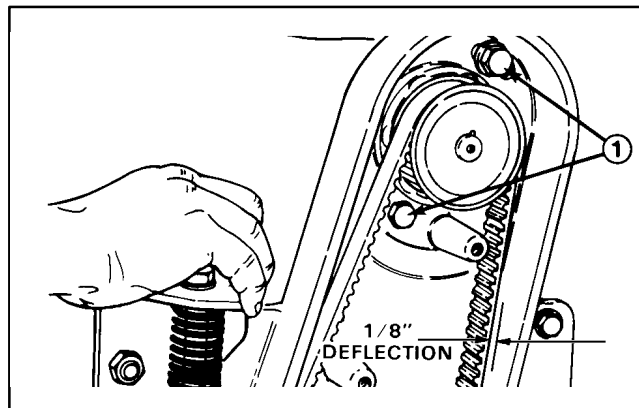

Figure 14
3. Insert the two (2) reel drive motor mounting bolts (heads on inside of the drive housing – flat washer on top bolt) through the reel motor flange holes. Thread the locknuts onto the bolts. Rotate reel motor upward in the slotted hole in the housing to tension the drive belt and tighten the fasteners (Fig. 14) to approx. 25 ft–lbs (34 Nm). NOTE: Proper belt tension is achieved when belt deflects approximately 1/8" (3 mm) at mid–point when 7 lbs. force is applied. (Fig. 14).